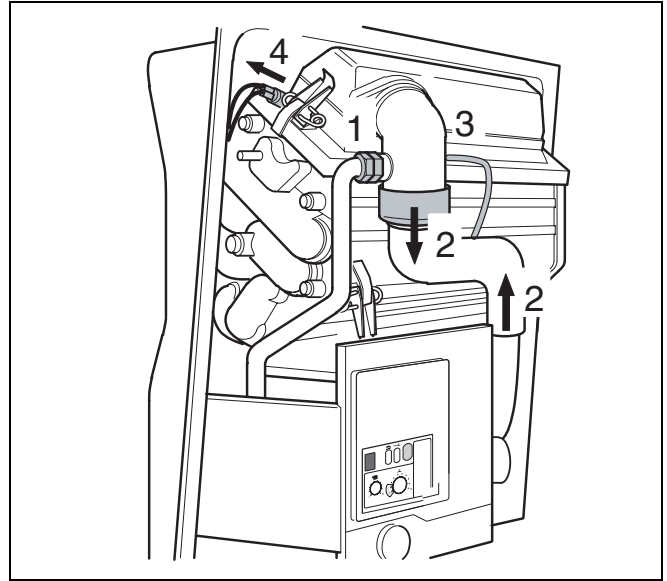

fig. 58 Disconnecting
- Loosen the screw couplings of the gas injector (fig. 58, item 1) and safety valve (fig. 58, item 2).
- Pull off the hoses leading to the fan (fig. 58, item 3).
- Pull off the hoses at the differential pressure measuring point (fig. 58, item 4).
- Pull out the plug of the burner thermostat (fig. 58, item 5).